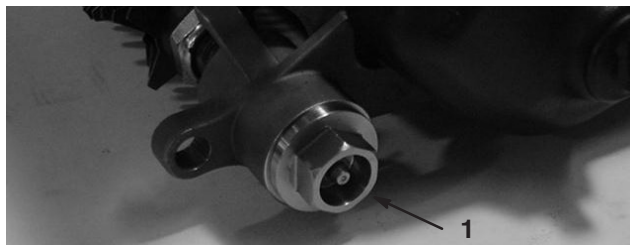

Figure 18
30. Apply Loctite to the threads on the cap plug (Fig. 18). Thread the cap plug into the groomer housing. Torque the cap plug to 60–80 ft.-lbs.